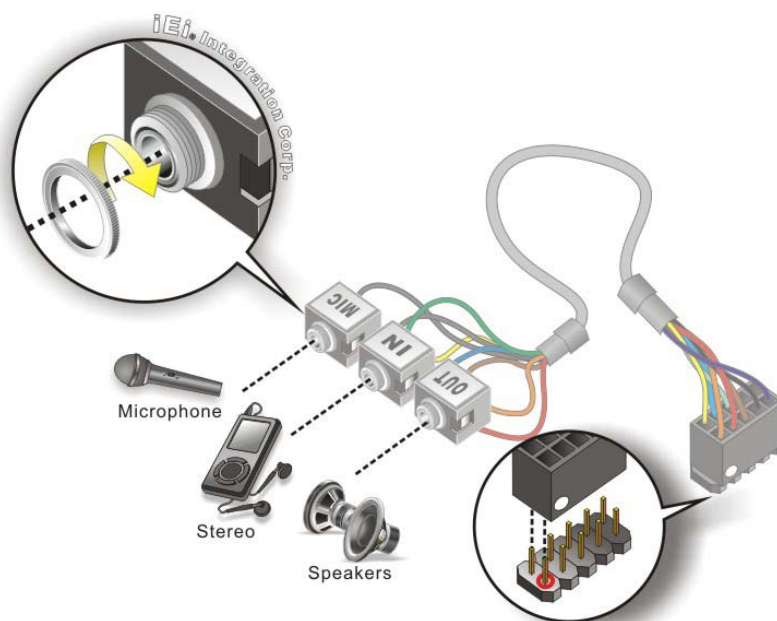

Figure 4-2: Audio Kit Cable Connection
Step 2: **Align pin 1.** Align pin 1 on the on-board connector with pin 1 on the audio kit connector. Pin 1 on the audio kit connector is indicated with a white dot. See Figure 4-2.